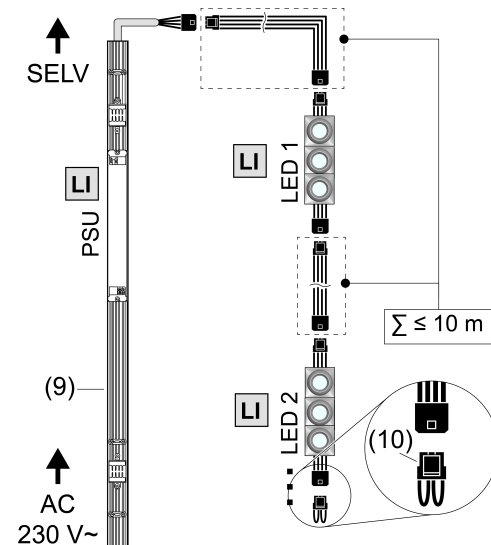

Figure 4: Connection diagram
- Link the light inserts together according to the connection diagram and connect them with a suitable operating device (9) (Figure 4).
- Always put a jumper plug (10) in the outlet of the last light insert of the link.